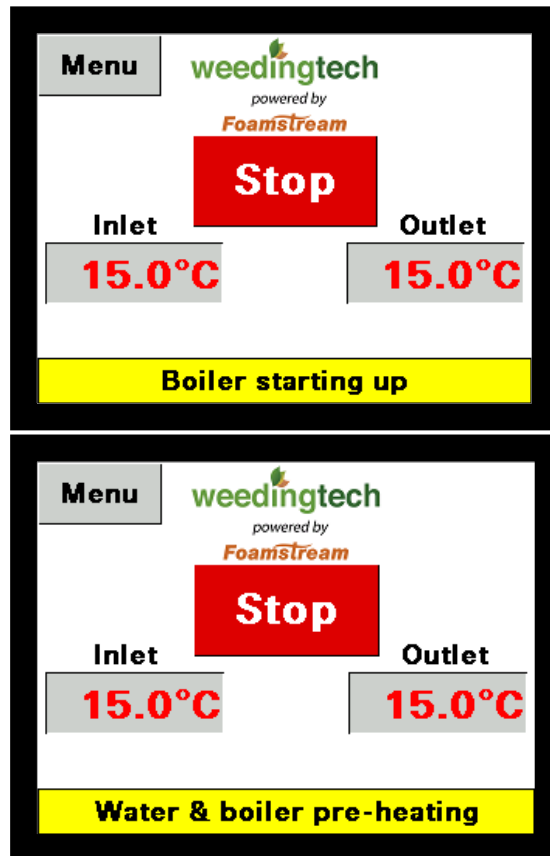

Figure 7 - Running screen of the PLC
- ✓ Press **START**, the button turns green and the screen represented on Figure 7 will appear.